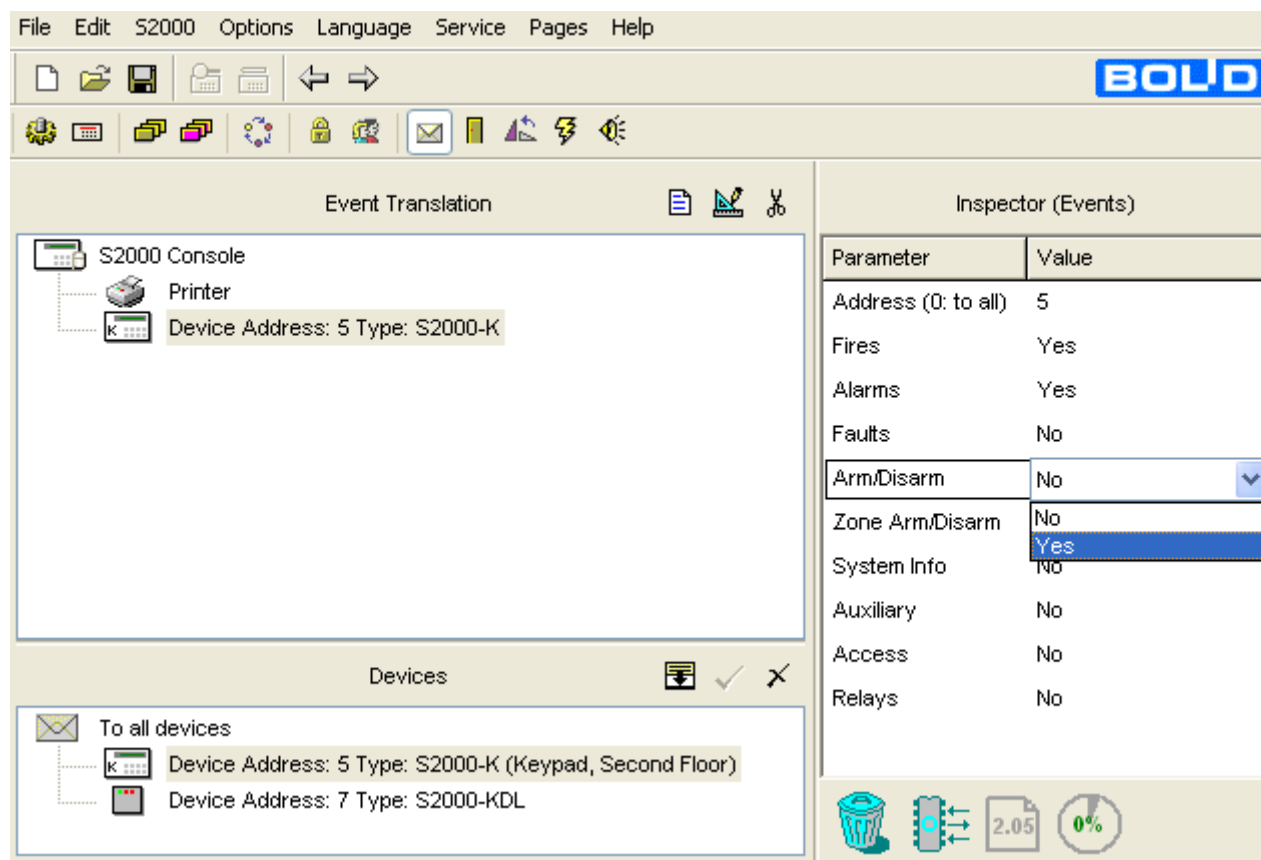

Figure 11
- The keypad descriptor being selected in the Event Translation window, define in the *Inspector* window the kinds of events which are supposed to be displayed by the keypad (see Figure 11).